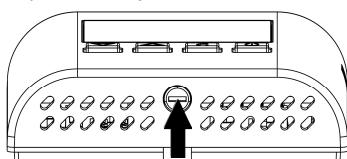

Fig. 4
- Push, with the help of a screwdriver, the plastic tooth located on the slot on the bottom side, then slightly lift up the plastic cover (Fig. 4).